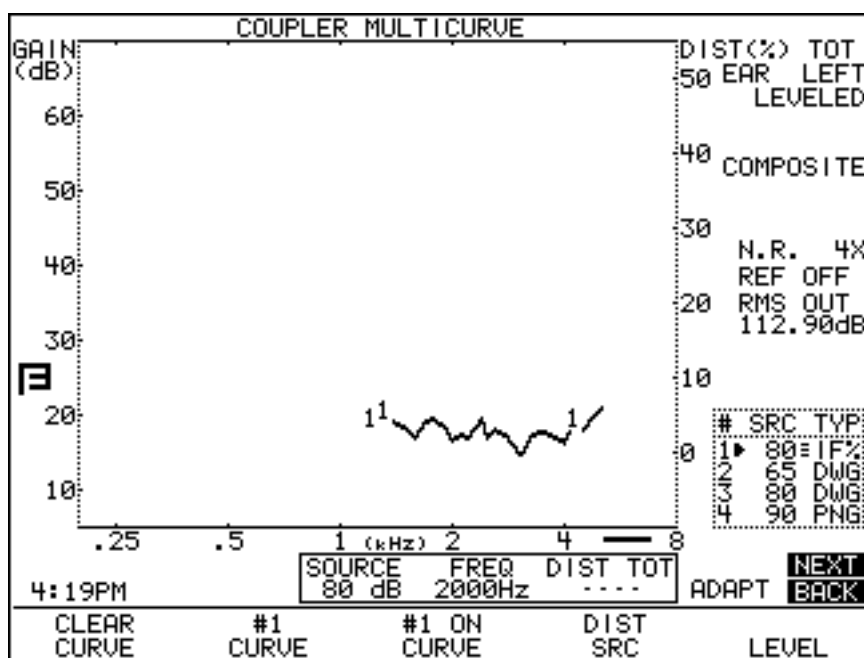

Figure 3.5.3—IM distortion sweep
11. Press [START/STOP] to perform the IM distortion sweep. The percentage scaling (DIST %) for the measurement is located on the *right* side of the graph. Notice the thick line below the lower right corner of the graph. This is an indication that the current selected measurement uses the right side scaling. See Figure 3.5.3 for an example.